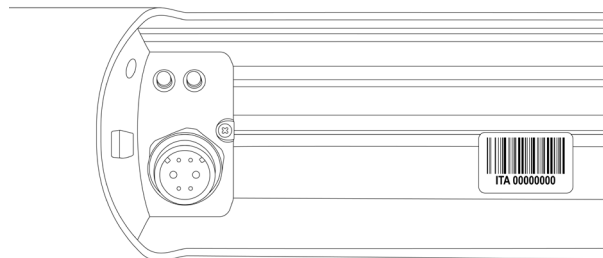

FIG. 15
- In order to make this warranty effective, you must fill out the online form which is accessed by QR CODE or by connecting directly to the site warranty.mbmbike.it by and no later than 15 days from the date of purchase of the bicycle. The serial number and the photograph of the proof of purchase of the authorized dealer will be required. The serial number is printed on the label on the battery slide and on the battery itself. (Fig. 15)